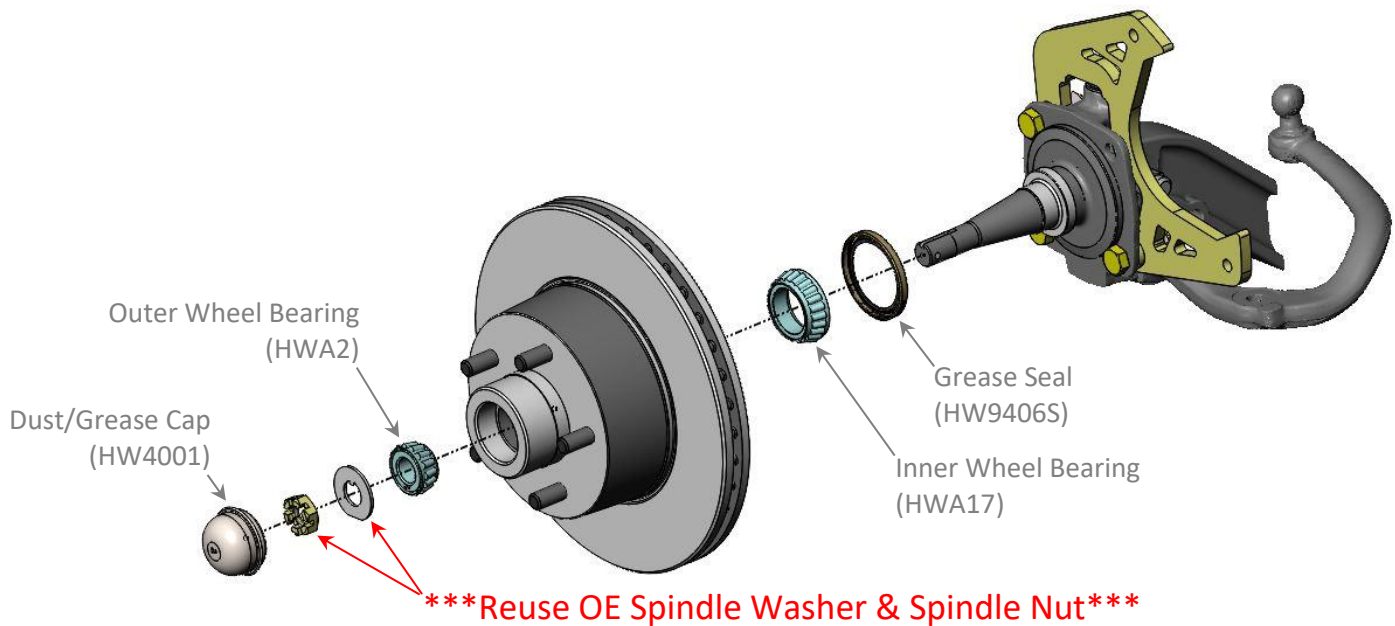
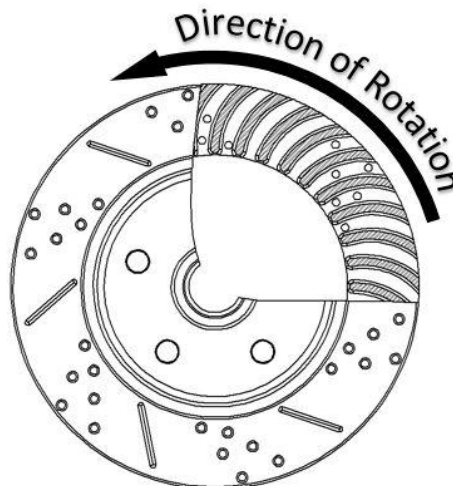

Figure 5 – Component Location (Driver Side Shown)
Figure 6 – Rotor Orientation
8. Slide the rotor onto the spindle. The inner wheel bearing and grease seal should be installed at this point. With the rotor fully pushed onto the spindle, install the outer wheel bearing followed by the keyed washer and re-use the original spindle nut. When tightening the spindle nut, tighten to 5-10 ft/lbs. Loosen the nut and tighten again using the same 5-10 ft/lbs. Do this a couple of times spinning the rotor to fully seat the wheel bearings onto the spindle. Loosen the nut a final time and re-tighten to remove all play. Tighten approximately an additional 1/16th of a turn to give the appropriate pre-load and line up the cotter pin hole. Install the cotter pin to secure the nut followed by the grease cap. Figure 5 shows the proper location of each component. **IMPORTANT:** If using slotted and drilled rotors, pay close attention to Figure 6 for proper rotor placement on the driver or passenger side.